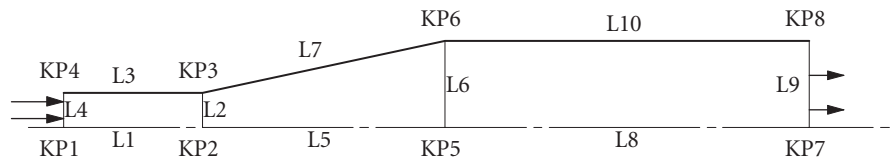

Figure 5.13 Keypoint and Line numbers for a diffuser.
- (2) Pick **Line 1** and **Line 3** on **ANSYS Graphics** window (Line numbers and Keypoint numbers are indicated in Figure 5.13) and click [B] **OK** button.